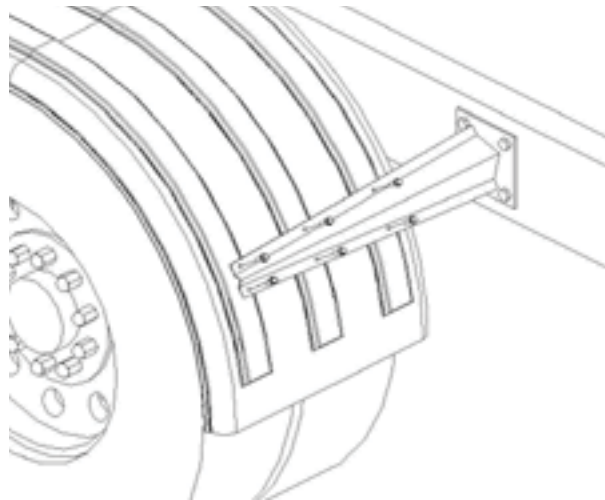

Figure 8
- A. Drill six 5/16" holes thru fender using the holes in bracket PB5010 as a guide. Install the 5/16" x 1" bolts thru the bracket and into the fender. Use six 5/16" body washers and 5/16" nuts provided with kit on the inside of fender. Hand tightening of bolts is suggested. Make sure the fenders are square and aligned. Twists or bows in the fender will fatigue the material over time. See Figure 8.